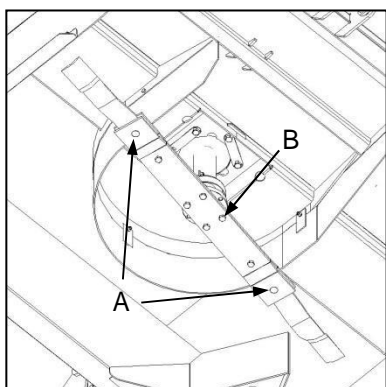
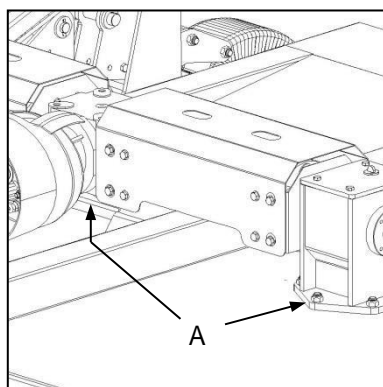
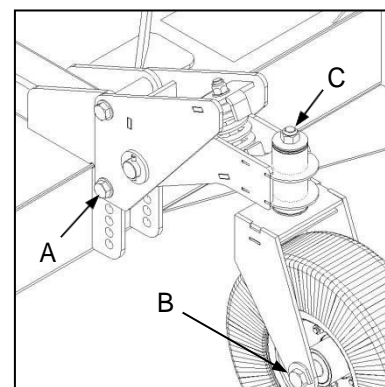

Fig. 1
Fig. 2
Fig. 3
- ✔ Check all fasteners for tightness. This includes special attention safety-critical fasteners such as blade bolts and nuts (Fig. 1-A/B), cutting gear mounting bolts (Fig. 1-C), gearbox mounting bolts (Fig. 2-A) and all wheel assembly fasteners and pivot points (Fig. 3-A/B/C).
- ✔ Verseker dat alle hegstukke vas is, met spesiale aandag aan veiligheidskritieke hegstukke soos lemboute en -moere (Fig. 1-A/B), snyemeganismemonteerboute (Fig. 1-C), ratkasmontereerboute (Fig. 2-A) en alle wielmonteringhegstukke en spilpunte (Fig. 3-A/B/C).